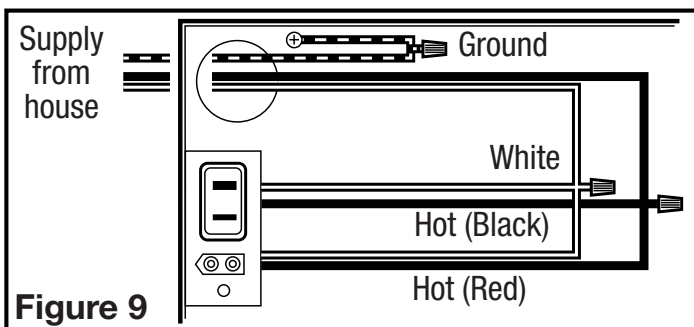

Figure 9
- 2a. From where you have access to inside the fan's junction box, connect the one white wire from the house to both the white wire from the fan's light receptacle and the white wire from the fan's exhaust receptacle. Connect the black wire from the wall switch to both the red wire from the fan's light receptacle and the black wire from the fan's exhaust receptacle. Connect the ground wire from the house to the green wire from the fan's grounding screw (**Figure 9**). Use approved methods for all connections.